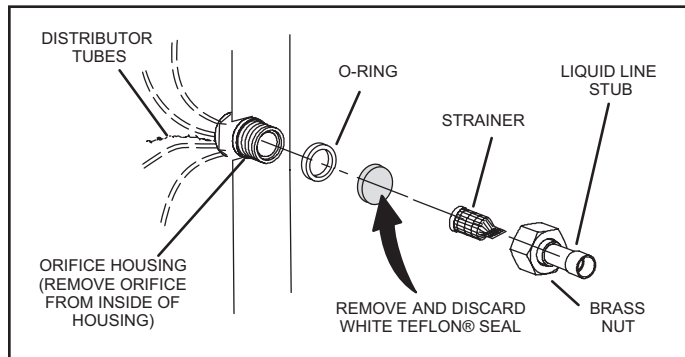

Figure 9. Typical Fixed Orifice Removal
3. Remove and discard the existing orifice, valve stem assembly (if present) and Teflon ring as illustrated in Figure 9.